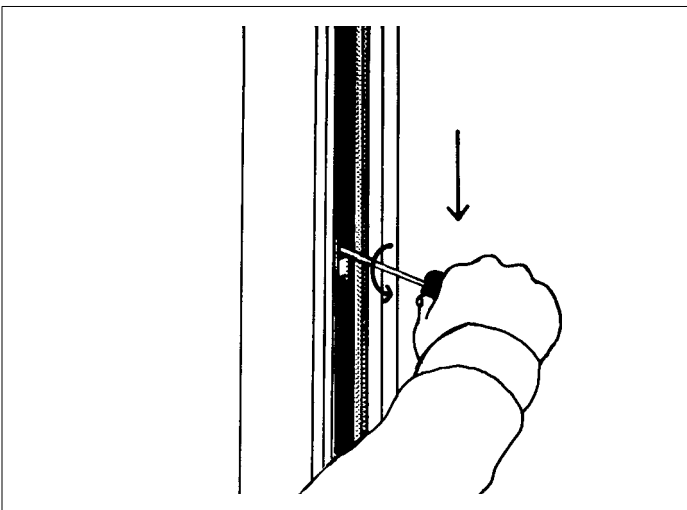

Figure 5
- Pull down the two, one per side, locking terminals located within the jamb liners. Hold a standard screwdriver firmly and pull down each assembly 8"–10" from the sill. Engage in locked position by rolling the screwdriver. **BE SURE THE ASSEMBLIES ARE IN THE LOCKED POSITION BEFORE LETTING GO. IMMEDIATE DAMAGE COULD OCCUR IF THE LOCKING TERMINAL ASSEMBLIES ARE NOT LOCKED.** (See figure 5 and 6.)